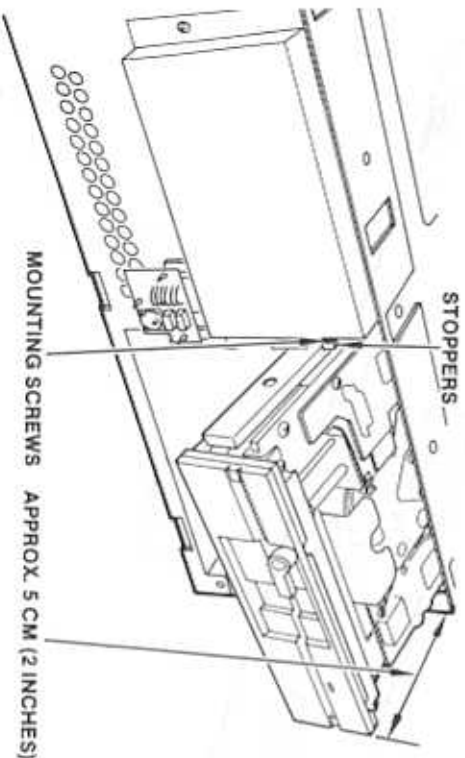

Figure 11-11. Sliding Drive A Forward
1. It may be necessary to slide diskette drive A part way out of its slot in order to attach the cables to drive B. Do this by removing the mounting screws that hold diskette drive A in place, and sliding drive A out approximately 2 inches (Figure 11-11). You can leave all the cables connected.
If necessary in order to attach the cables, slide diskette drive A part way out of its slot. Do this by removing the mounting screws that hold the diskette drive in place and sliding the drive out approximately two inches (refer to Figure 11-11).